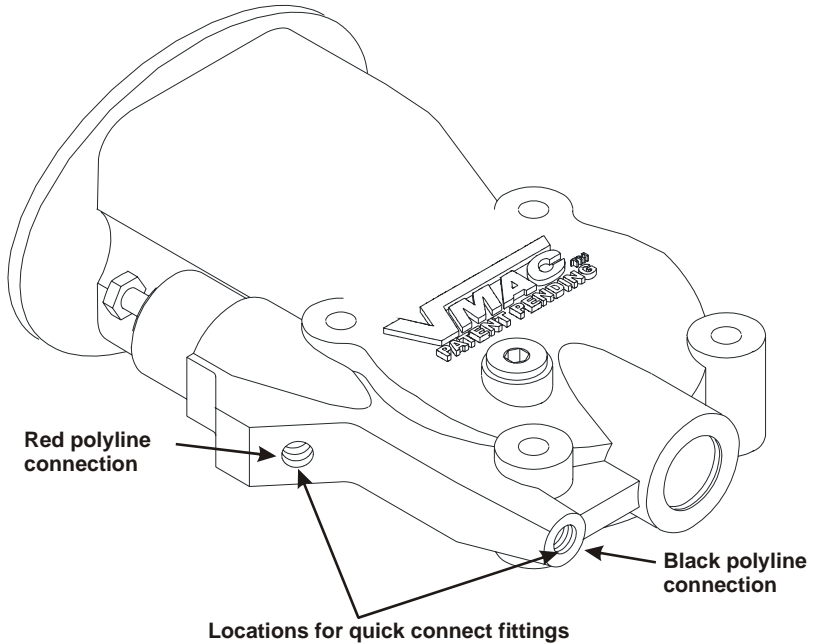

Figure 4.3
- Remove the protective plastic plugs from the passenger side and the front of the inlet control valve (Figure 4.3). Apply pipe sealant to the threaded end of the 90 degree quick connectors and thread them into the holes. Tighten the fittings.